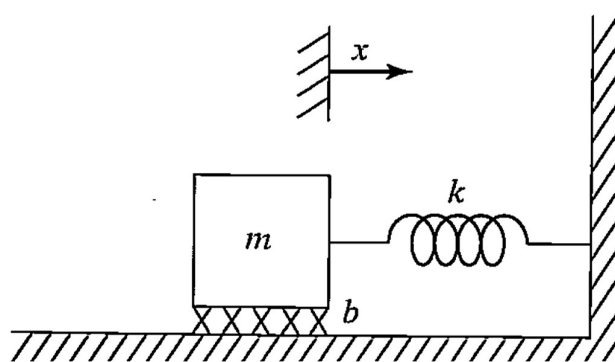

Fig. Q.5 (b)
- Q.5(b) Determine the motion of the system in Fig. Q. 5(b) if parameter values are  $m = 1$ ,  $b = 5$ , and  $k = 6$  and the block (initially at rest) is released from the position  $x = -1$ . [5] 5 Determine